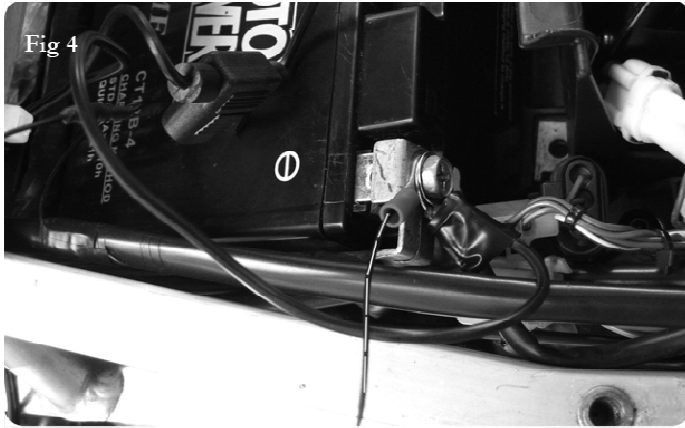

Fig 4
10. Attach the black wire of the Pk-Power Dragon wiring harness to the negative side of the battery (see Fig. 4)